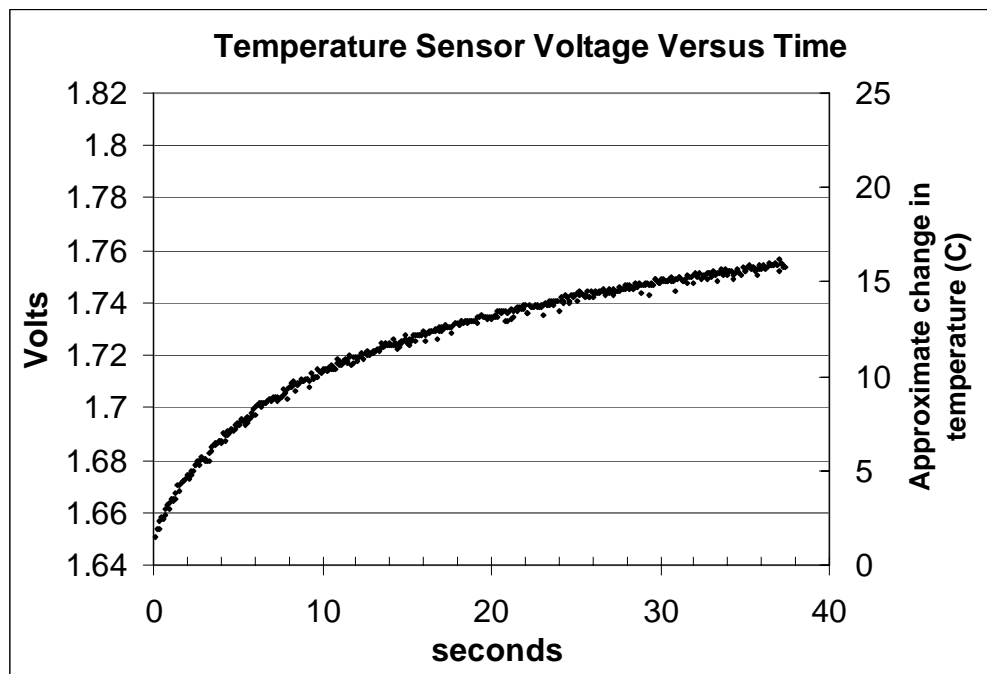
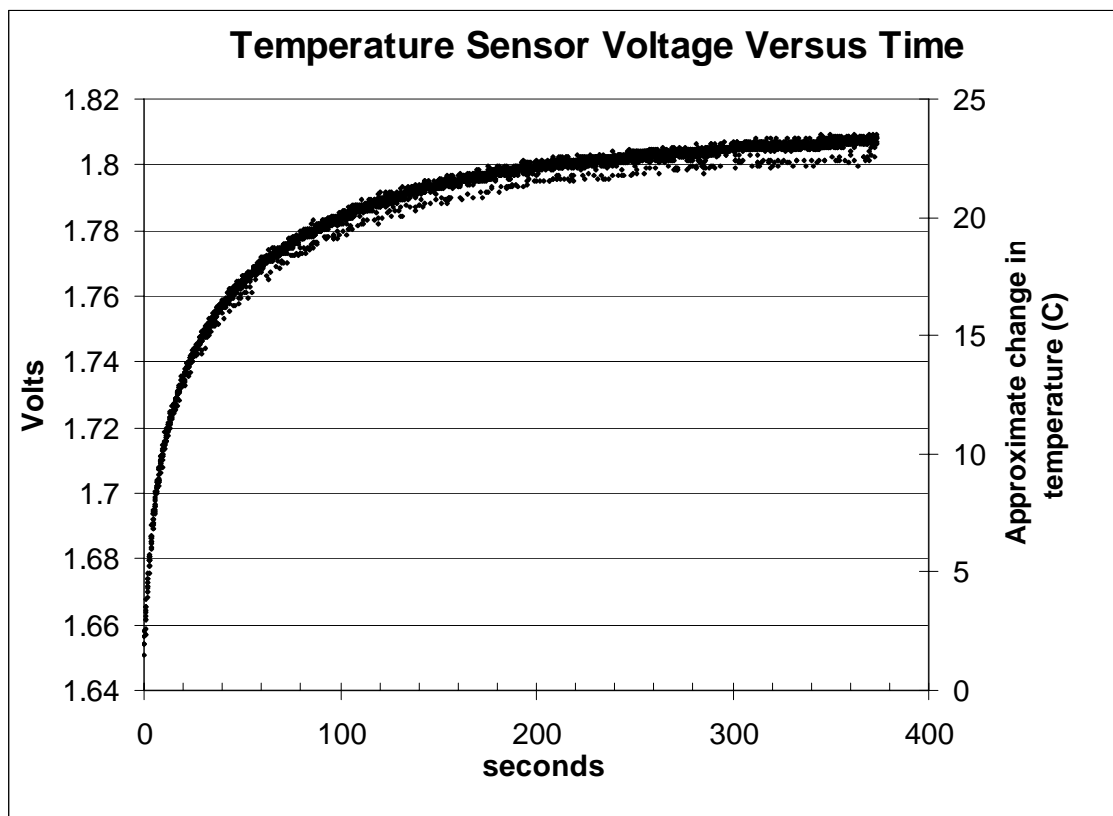

Figure 4-4. Estimated T_j Over Time (A)
Figure 4-5. Estimated T_j Over Time (B)
These readings can be used with Equations (1) through (3) (See Section 3.) to calculate T_J . Both V_{TS} and T_J are shown in Figure 4-4 and Figure 4-5. The data is the same for both figures, although Figure 4-4 has an expanded time scale to focus on the initial seconds.